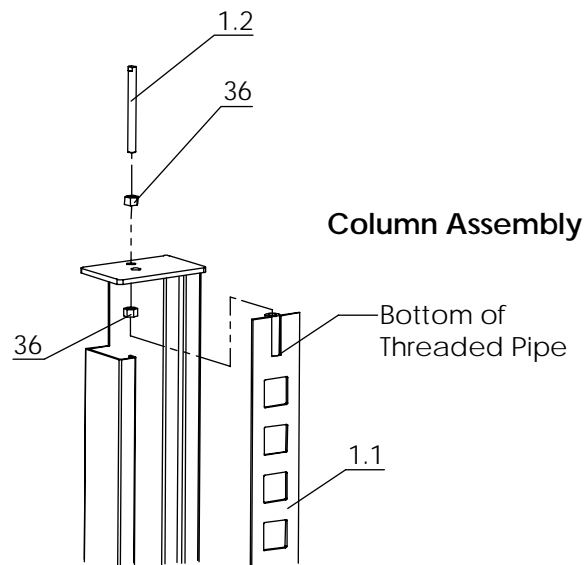

Fig. 2.7.2
Refer to Fig. 2-7-2. Note assembly is exploded for clarity. Ladder bar must already be installed inside column. Assemble M20 Nut (36) to Adjustment Rod (1.2). Insert through top of column being sure to use hole nearest the outside of the column. Install second M20 Nut. Thread Adjustment Rod into Ladder Bar (1.1). Note, the thread should stop flush with bottom of threaded pipe welded to ladder bar. It is possible to thread adjustment bar down too far. This will not allow for proper adjustment of ladder bar because of the lack of remaining threads.